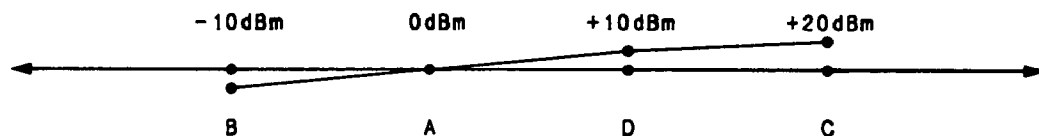

Figure 5-11. Linear Response Curve
13. Set the HP 8495B programmable attenuator to 30 dB. On the HP 8350B press **RECALL** (2). On the HP 83590A, select **[POWER LEVEL]** and adjust the rotary knob for a -10.0 dBm reading on the HP 436A.
15. Set the HP 8495B programmable attenuator to 10 dB. On the HP 8350B, press function **RECALL** (4). On the HP 83590A, select function **[POWER LEVEL]** and adjust the rotary knob for a +10.0 dBm reading on the HP 436A.
16. Note the power level displayed on the HP 8349B. Using A4R23 (+15), adjust the level to read +10.0 dBm plus the difference noted in step 14. For example: if the initial reading for the +10 dBm point on the HP 8349B is 9.8 dB and the difference noted in step 14 is 0.2 dB, adjust it to +10.0 dB (9.8 + 0.2). If the difference from step 14 is 0.3 dBm, adjust A4R23 (+15) to read 10.3 dBm (10.0 + 0.3). This helps adjust the entire logarithmic curve for a more linear response. The curve should now resemble Figure 5-11.